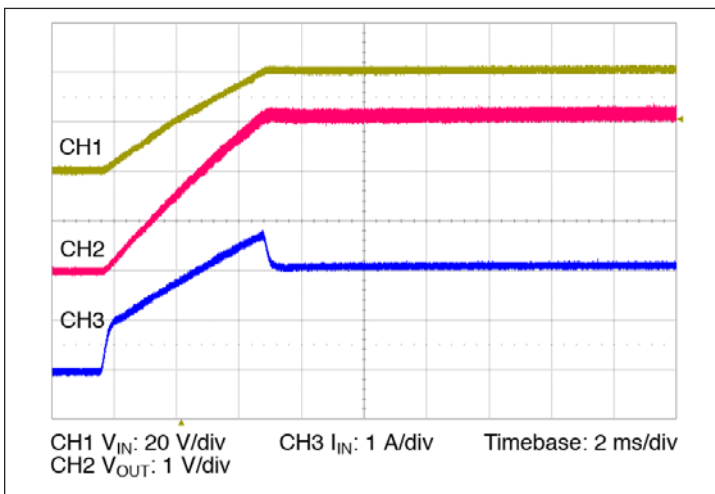

Figure 13 — Start up from application of  $V_{IN}$ ;  $V_C$  pre-applied  $C_{OUT} = 0 \mu$ F
- Normal Operation (VC applied prior to VIN): In this case the controller is active prior to ramping the input. When the input voltage is applied, the VTM output voltage will track the input (See Figure 13). The inrush current is determined by the input voltage rate of rise and output capacitance. If the VC voltage is removed prior to the input reaching 26 V, the VTM module may shut down.